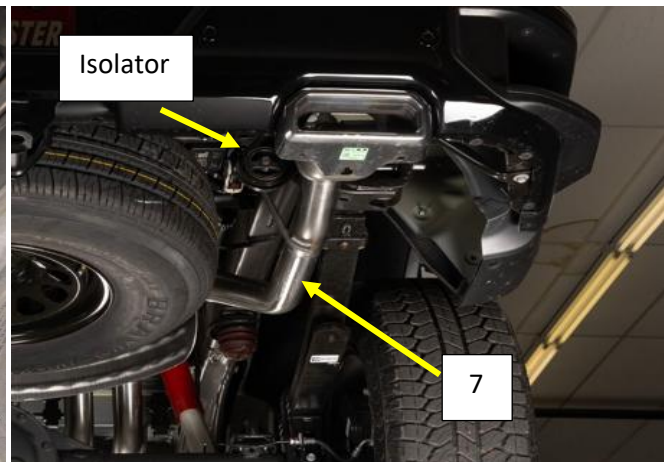

Figure.17
19. Install the Right rear tail pipe (7) on to the Right front Tail pipe (5) and tighten the clamp to allow for adjustment. **Fig.17**
20. Install the right rear tail pipe isolator on to the hanger rod and mount the isolator to the frame rail. **Fig.17**